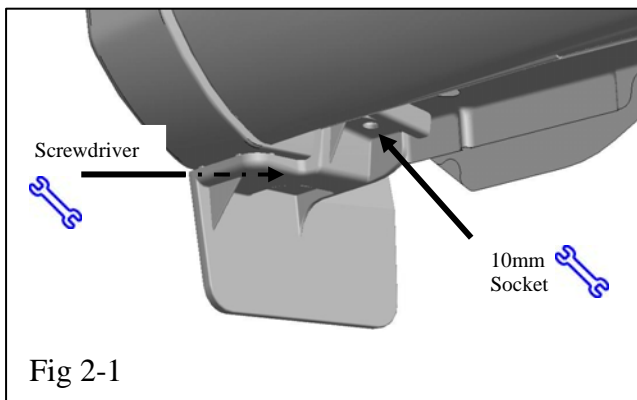

Fig 2-1
- Remove and discard left and right rear diffusers. Use 10mm socket to remove retaining screw. (Fig. 2-1)
- Using a flat blade screwdriver, insert blade forward between diffuser and under body. Carefully push in tab from top side of tab downward and slide diffuser out towards rear wheel. (Fig 2-1)